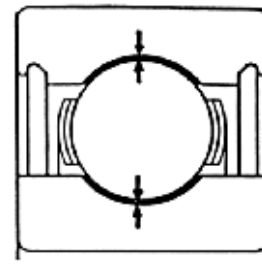

Figure 2. Radial internal clearance.
4. Be aware of radial internal clearance (see Figure 2). It is critical to maintain the proper RIC established in the original design. The standard scale in order of ascending clearance is C2, C0, C3, C4, C5. The proper clearance for the application is critical in that it allows for the challenges of:
- Figure 2. Radial internal clearance.